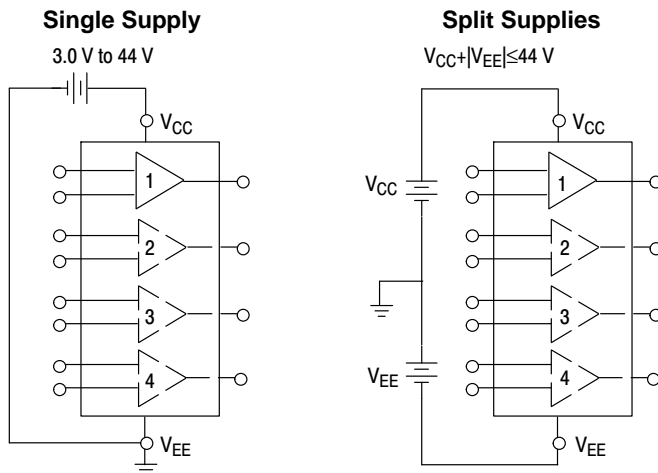

Figure 2. Power Supply Configurations
2. Power dissipation must be considered to ensure maximum junction temperature ( $T_J$ ) is not exceeded (see Figure 2).